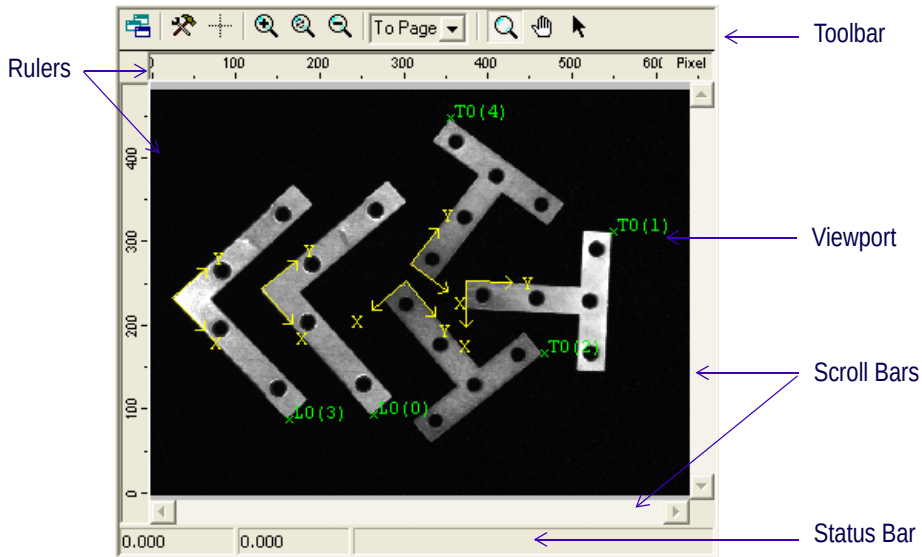

Figure 114 Typical HexSight Display Screen
- Figure 114 shows a typical HexSight display screen. The **Elements of HexSight Displays** section presents the different elements that constitute such a screen.